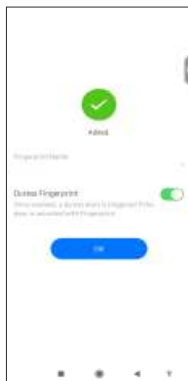

Fig. 30.
2. Once enabled, a Duress alert is triggered if the door is unlock with Fingerprint, Password, RFID card. Fig. 30.